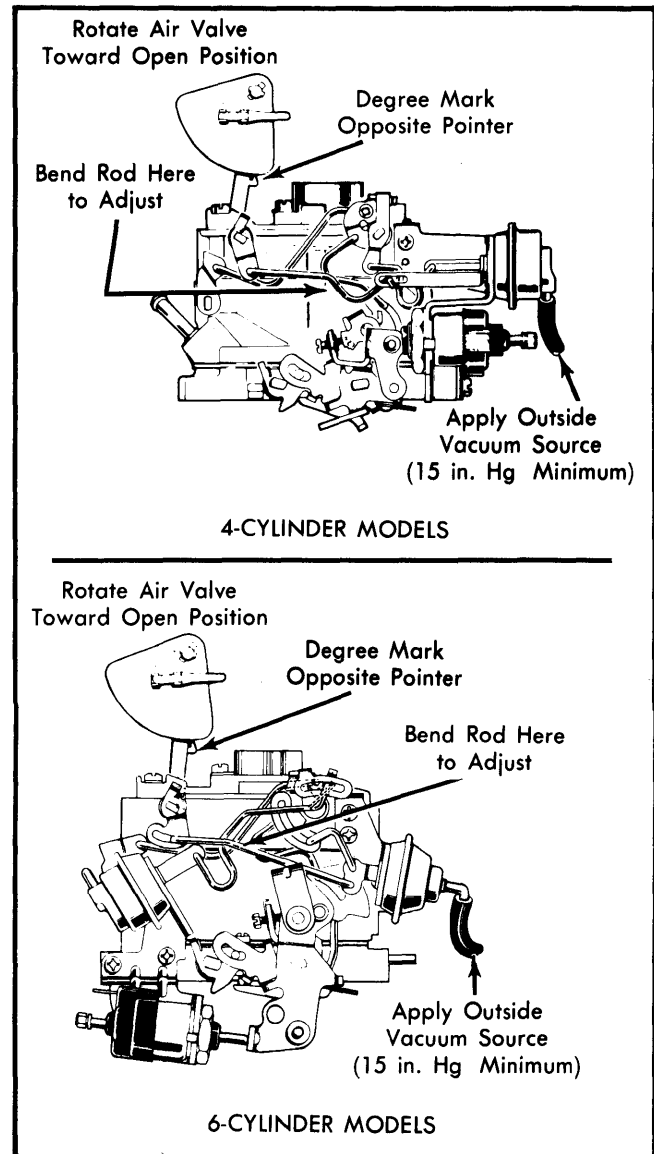

Fig. 6 Adjusting Air Valve Rod
1) Using an outside vacuum source of at least 15 in. Hg, seat primary choke vacuum break diaphragm. Close air valve, mount and adjust angle gauge. See Fig. 6.